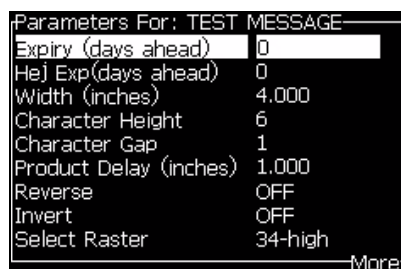

Figure 5-11: Message Parameters Dialog Box
- 2 Under the *Messages* menu, select the Message Parameters (Figure 5-11 on page 5-25) to edit the values.